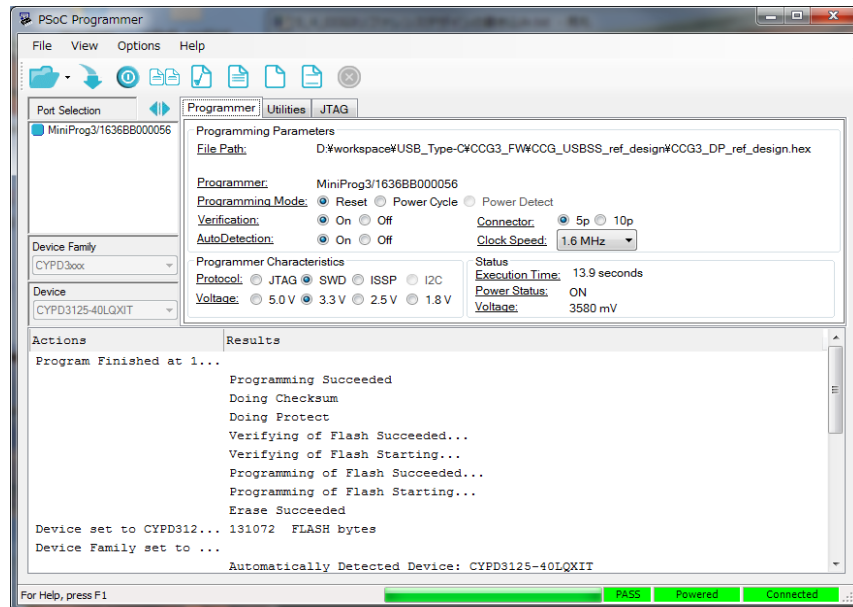

Figure 5-10 Completion of CCG3 Device FW Download
7) The CCG3 device FW download is complete when you can confirm it, as shown in Figure 5-10.